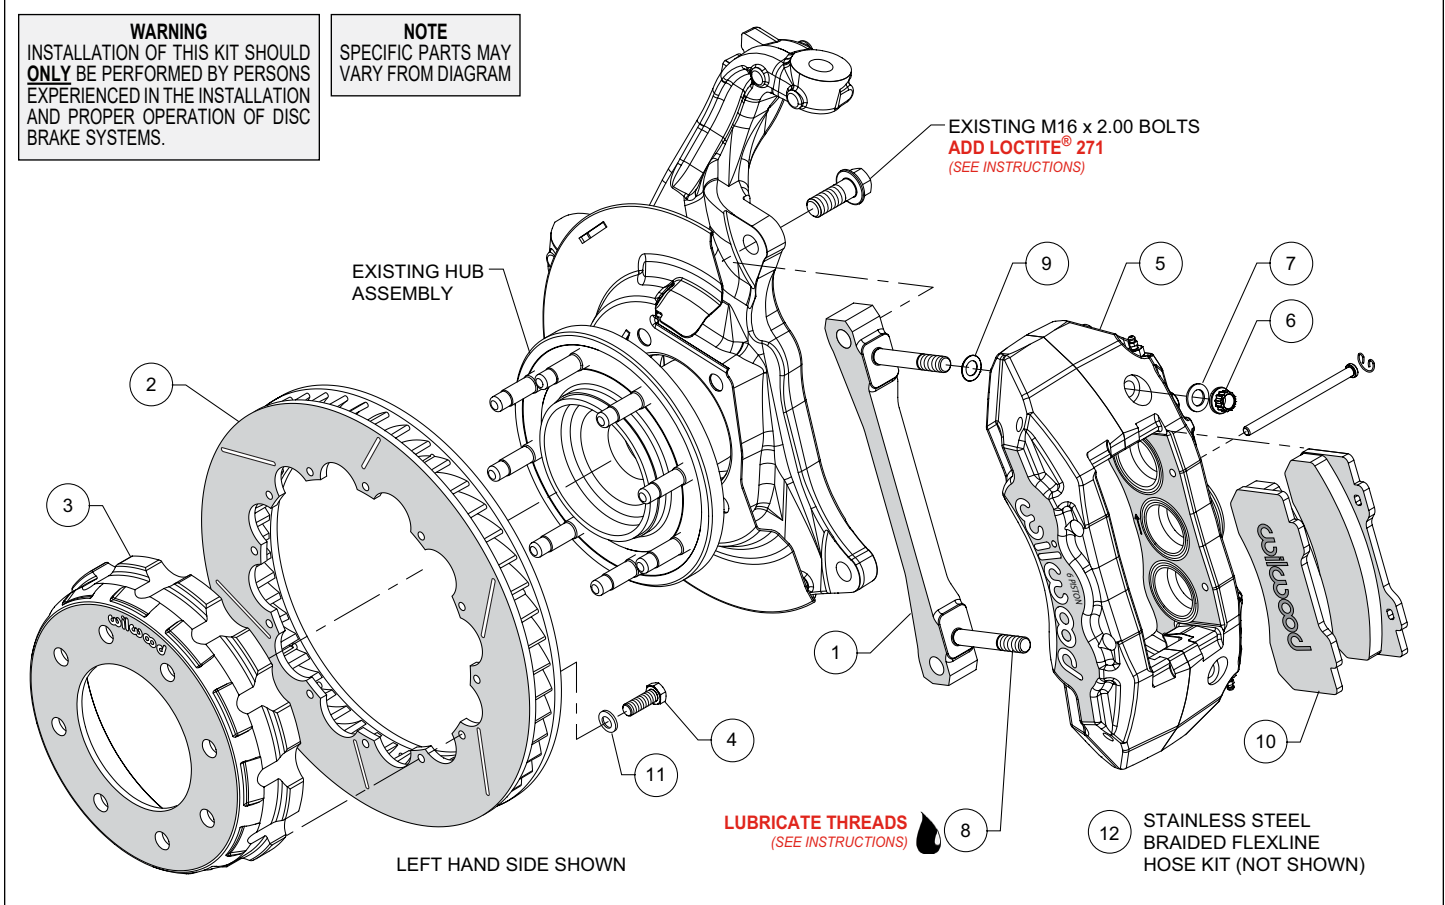
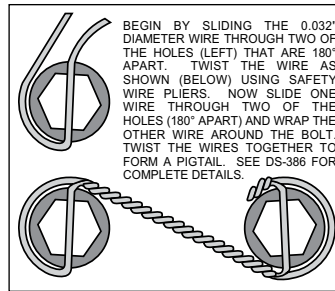

Figure 1. Typical Installation Configuration
Figure 3. Safety Wire Diagram
NOTE: Numbers in parenthesis refer to the parts list and Figure 1 on the preceding pages.
- The caliper mount bracket (1) should initially be installed with clean, dry threads on the mounting bolts. Orient the bracket as shown in Figure 1 and Photo 1, and install using saved OE bolts. Temporarily tighten the mounting bolts. **NOTE:** The bracket must fit squarely against the mount bosses on the upright. Inspect for interference from casting irregularities, machining ridges, burrs, etc. Remove the mounting bolts one at a time and apply red *Loctite*[®] 271 to the threads and torque to manufacturer's specifications.
- Orient the rotor (2) and the hat (3) as shown in Figure 1 and Photo 2. Attach rotor to hat using bolts (4) and washers (11). Torque bolts to 25 ft-lb using a criss-cross pattern. For an added measure of security, the bolts may be safety wired using standard 0.032 inch diameter stainless steel safety wire as shown in Figure 3. Please refer to Wilwood's data sheet DS-386 (available at www.wilwood.com/Pdf/DataSheets/ds386.pdf) for complete safety wire installation instructions.
- NOTE:** This kit contains distinct right and left hand calipers that must be mounted in a specific direction, as described below. Lubricate the caliper mounting studs (8) with lightweight oil. Initially place one .032" thick shim (9) on each stud as shown in Figure 1 and Photo 3. Mount the caliper (5) onto the bracket (1) using lock nuts (6) and washers (7), Figure 1. Ensure that the caliper is mounted so that the largest pistons are at the rotor exit end of the caliper, in relation to the direction of rotor rotation. Temporarily tighten the lock nuts.